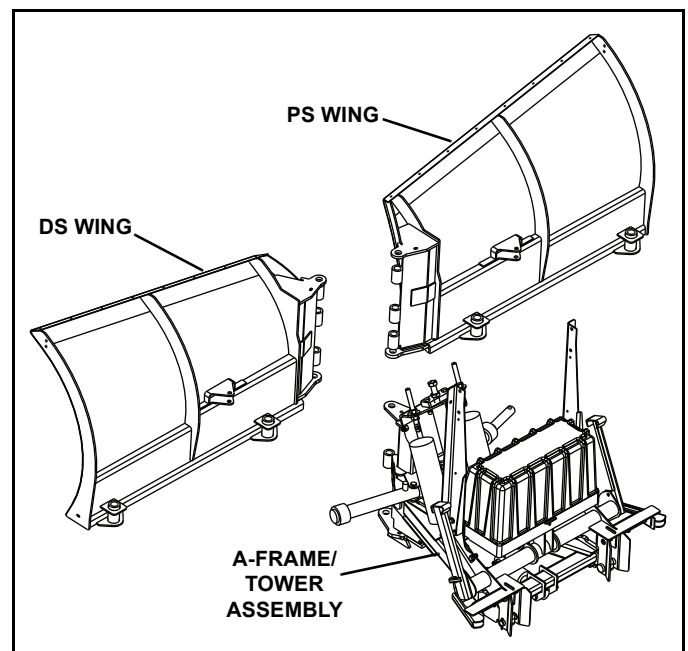

Figure 1-3
7. Position the drivers side (DS) and passenger side (PS) wings in front of the A-frame/tower assembly. (See Figure 1-3.)